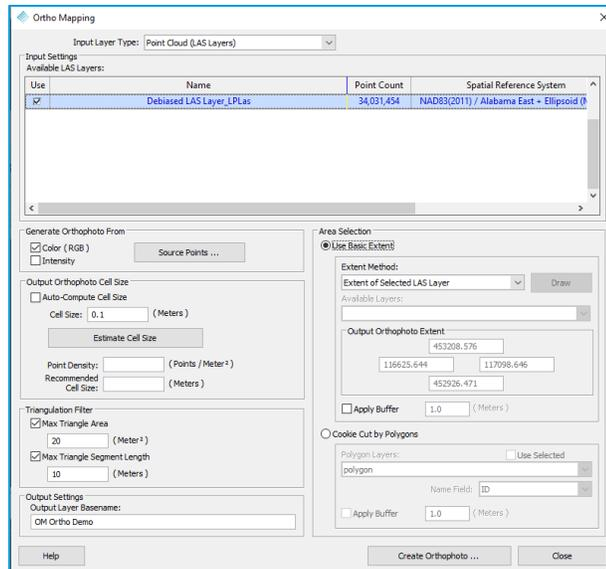

Figure 106 – Ortho Mapping dialog with Input Layer Type: Point Cloud (LAS Layers)
- 8. Select **Ortho Mapping** on the Sensor tab (Figure 105) to open the Ortho Mapping dialog (Figure 106). **Note:** To enable this tool requires a "Photo", or "Photo3000", or legacy "Full Photo" addon license be checked out in addition to the LP360 Drone license.
9. With the input layer type selected to be **Point Cloud** the Ortho Mapping dialog looks like Figure 106.